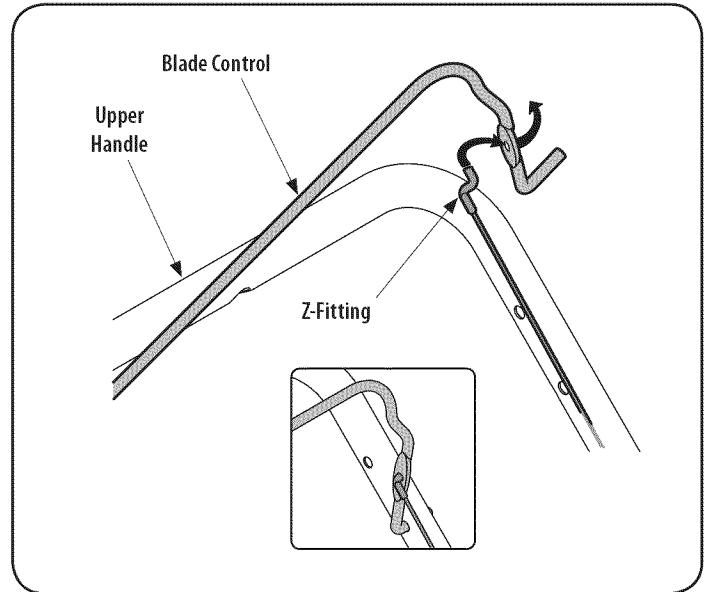

Figure 2
1. To make it easier to attach the Z-fitting, temporarily remove the left side of the blade control as shown in Figure 2.
2. Hook the Z end of the brake cable into the control from the inside to outside. See Figure 2.